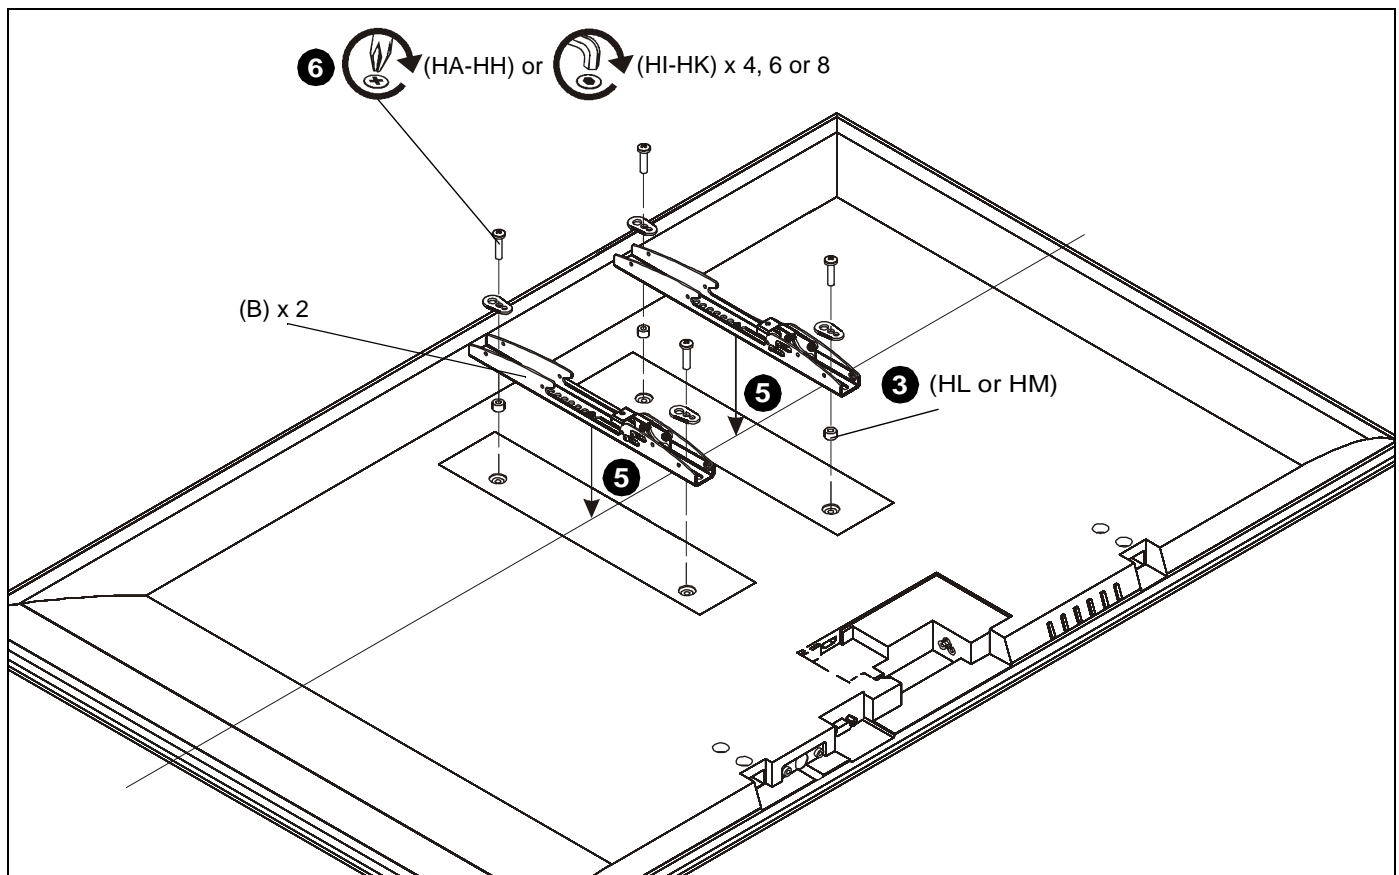

Figure 3
2. Select screw *diameter* by examining hardware (HA-HK) (4mm, 5mm, 6mm or 8mm) and comparing with mounting holes on display. (See Figure 3)
3. Select spacers: (See Figure 3)
- If mounting holes are not recessed and both uprights (B) can lay flat against display, then no spacers are required.
- If mounting holes are recessed, or if protrusions prevent uprights (B) from laying flat, then spacers (HL or HM) must be used.
4. Select screw *length*: (See Figure 3)
- Using your hand, insert **SHORTEST** length screw of selected diameter (HA, HD, HG or HI) through universal washer (HN), uprights (B), selected spacer (HL or HM), into display mounting hole. Do **NOT** thread screw into hole at this time.
- NOTE:** Universal washers (HN) are not needed if using M8 button head cap screws (HI, HJ or HK).
5. Place uprights (B) on display, ensuring: (See Figure 3)
- Center of uprights (B) are as close to the center of the back of display as possible after being installed. Center of bracket is indicated by the diamond-shaped hole.
6. Use selected screws and spacers to install two interface uprights (B) to back of display. (See Figure 3)